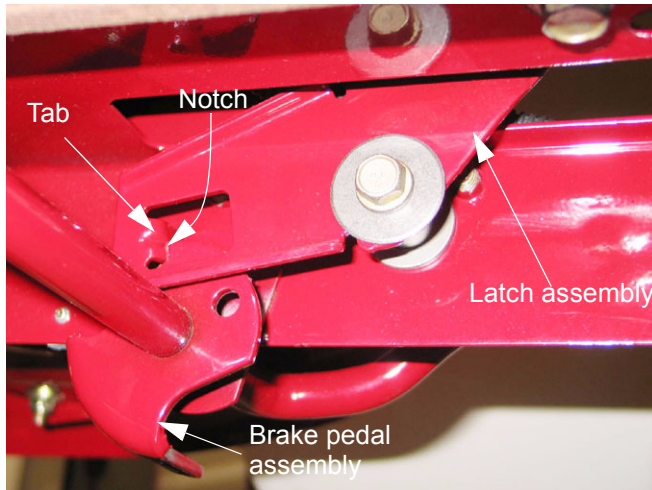

Figure 10.6
- 10.6. Adjust the rod length so that the tab on the latch just bottoms-out in the notch on the brake pedal assembly when the pedal is depressed and the park brake is moved to "ON". See Figure 10.6.